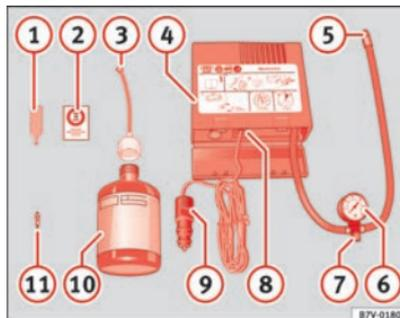

Fig. 178 Standard representation: contents of the anti-puncture kit.
The anti-puncture kit is located underneath the floor covering in the luggage compartment. It includes the following components ⇒ Fig. 178:
- Use the enclosed extractor to unscrew the valve insert ⇒ Fig. 178 ① and place the valve insert on a clean surface.
- Vigorously shake the sealant bottle ⇒ Fig. 178 ⑩ for several seconds.
- Screw the inflator tube ⇒ Fig. 178 ③ securely into the sealant bottle in a clockwise direction. The seal on the mouth of the bottle moves automatically.
- Remove the lid from the filling tube ⇒ Fig. 178 ③ and screw the open end of the tube into the tyre valve.
- Screw the valve insert again with the corresponding tool ⇒ Fig. 178 ① into the tyre valve.
- Securely screw the tyre inflator tube ⇒ Fig. 178 ⑤ of the compressor into the tyre valve.
- Check whether the air bleed screw ⇒ Fig. 178 ⑦ is closed.
- Attach the connector ⇒ Fig. 178 ⑨ to a 12 volt socket of the vehicle ⇒ page 127.
- Connect the air compressor using the ON/OFF switch ⇒ Fig. 178 ⑧.
- Keep the air compressor running until it reaches 2.0 to 2.5 bar (29-36 psi / 200-250 kPa) ⇒ **△**. **Maximum operation time 8 minutes** ⇒ ④.
Screw the inflator tube \Rightarrow Fig. 178 **5** again and check the pressure on the gauge **6**.